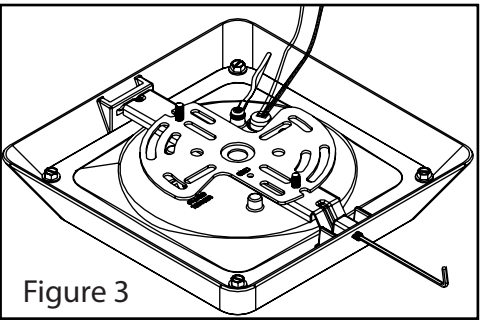

Figure 3
7. Hold Fixture Housing (8) in one hand and with the other hand position wires up into junction box.
8. Align slotted aperture of Fixture Housing to Mounting bracket previously installed in junction box (Step 4) See Fig 3. Lift Fixture up, gently slide in to secure Housing Assembly against ceiling. .